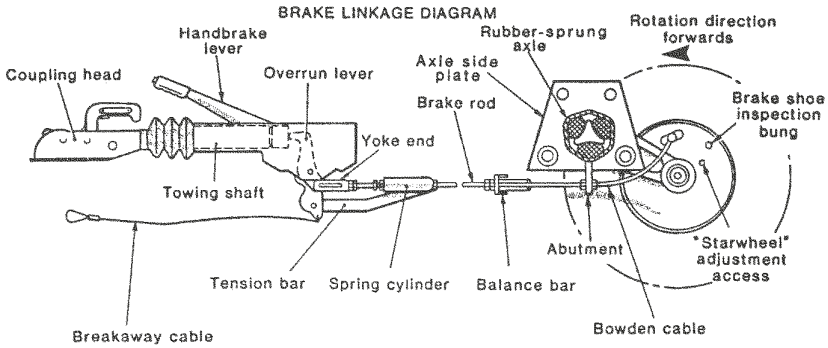
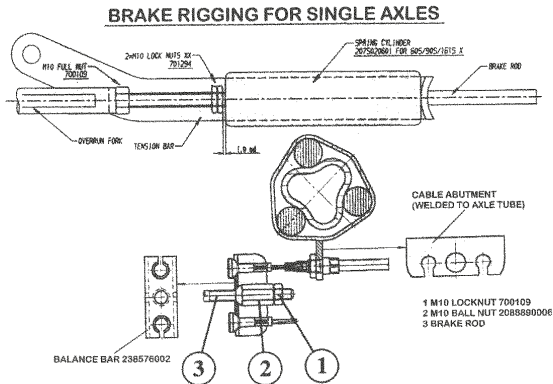

Fig. 10
Fig. 12
1. Ensure the towing shaft with coupling head is pulled **FULLY FORWARD**. (Fig. 10).
2. Release the handbrake to the **FULLY OFF** position. If the handbrake will not go down the whole way because of the fairing or any other obstruction; then the fairing must be cut away and/or the obstruction removed to achieve this desired position. It will not be possible to set up the braking system properly when the handbrake is not in the **FULLY OFF** position. (Fig. 10).
4. Remove the inner plastic bung from the backplate to expose the "starwheel" adjuster access. (Figs. 10 & 11).
When the inner cable is pulled out it should extend between 5 and 8 mm. (Fig.12). (On tandem axles a double abutment (bracket) is fitted to the front axle **ONLY**).
10. Ensure the balance bar (compensator) is being pulled evenly (Figs.10 & 12). Excessive movement to this bar (double on tandem axles) would indicate possible incorrect adjustment (if appropriate, repeat step No. 7 - Fig. 12).
12. Remove the slack in the brake rod by adjusting the long ball nut, rear of the balance bar, ensuring the overrun lever makes contact with the end of the towing shaft. **Note!** Over adjustment to the long ball nut (Fig. 12/Item 2) could induce movement of the inner brake cable, reducing the effective clearance of the brake shoes. If the overrun lever will not make contact, it is
possible the two lock nuts, forward of the spring cylinder, are incorrectly adjusted. Loosen the nuts and adjust brake rod as above (Figs. 10 & 12).
13. Adjust the two locking nuts, forward of the spring cylinder (Fig. 10), (on some chassis a single Nyloc nut is used) to give 1 mm of clearance on the spring cylinder. This cylinder (the energy store for the handbrake operation) must be able to rotate ONLY, not slide on the brake rod. (Fig. 12).